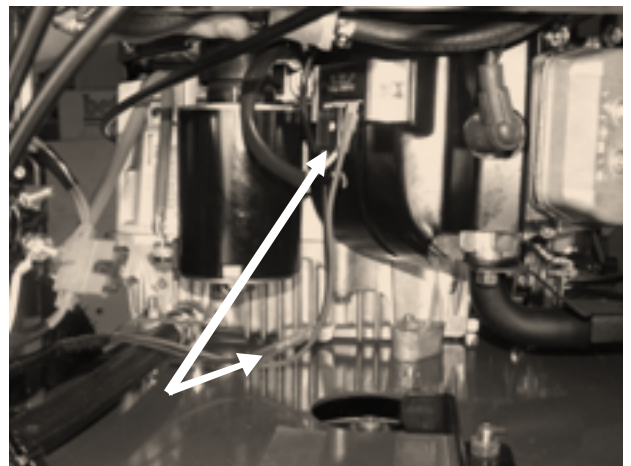

Figure 75
2. Disconnect wiring harness from rear of engine **Figure 75**.